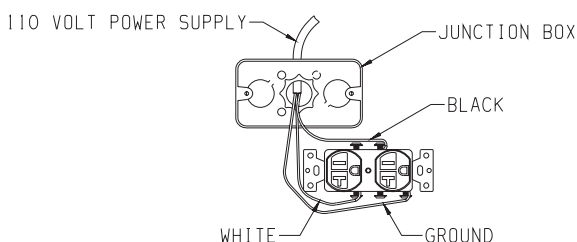

Figure 20
**Note:** Junction box on right side of fireplace must be pre-wired at time of fireplace installation for use with blower assembly. A standard wall ON/OFF wall switch or optional SCV1 Variable Speed Control Kit should be installed to activate power to the fireplace, and control the operation of the FBB5 Blower assembly. It is recommended that installation of the wiring be performed by a qualified electrician. **See Figure 20.**